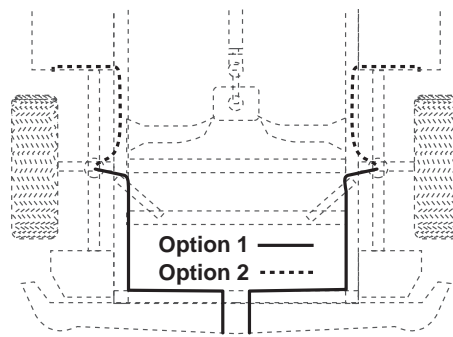

fig. 7
1. Choose a convenient location for mounting the inflation valves (Figure 7). Popular locations for the inflation valve are: wheel well flanges, license plate recess in bumper, under the gas cap access door, through license plate itself.
6. Route the air line along the frame to the air fitting on the air spring (Figure 7). Keep at least 6" of clearance between the air line and heat sources, such as the exhaust pipes, muffler, or catalytic converter. Avoid sharp bends and edges. Use the plastic tie straps (BB) to secure the air line to fixed, non-moving points along the chassis. Be sure that the tie straps are tight, but do not pinch the air line. Leave at least 2" of slack to allow for any movement that might pull on the air line.
7. On the exhaust side only, place the provided thermal sleeve (O) on the air line near the exhaust.